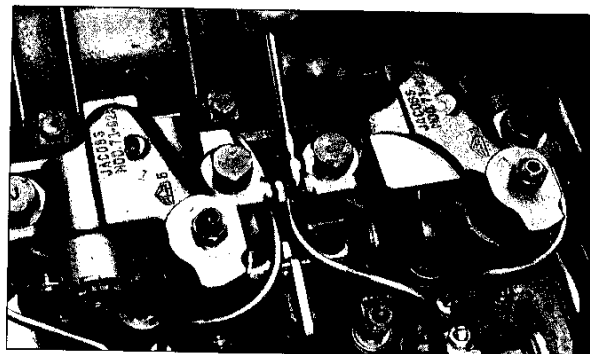

FIG. 1.6.14
1. Reposition the seal ring in the head of the oil connector to make sure it fits into the recessed hex head of the connector screw (Fig. 1.6.14).